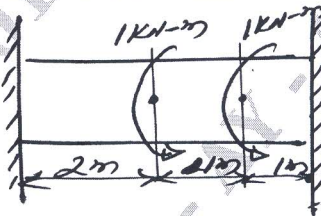

Fig.Q6(b)
b. A bar of circular cross section having a diameter of 50 mm is firmly fixed at its ends and subjected to a torque as shown in Fig.Q6(b). Determine maximum angle of twist and shear stress. Take $G = 7 \times 10^4 \text{ N/mm}^2$ and $E = 2 \times 10^5 \text{ N/mm}^2$. (10 Marks)